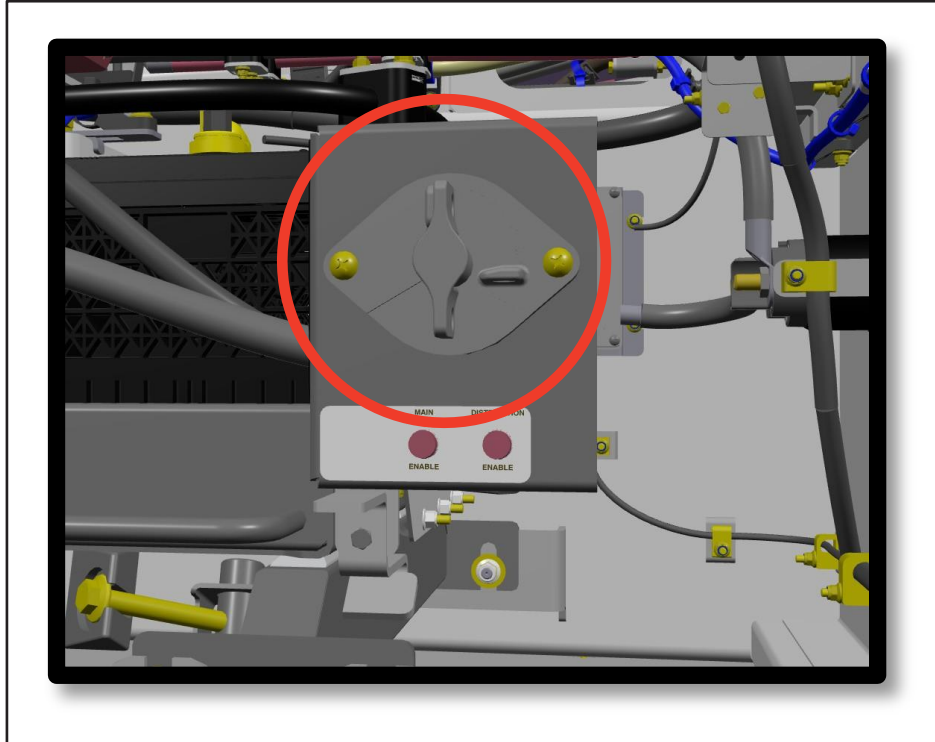

Figure 1 - Location of the 24V power source
- 1.3. Locate the 24V power source within the battery box and disconnect it from the bus and securely place a lockout/tagout device on the switch to ensure safety. Allow a 10 minutes after the battery disconnect switch has been placed in the off position(see figure 1).